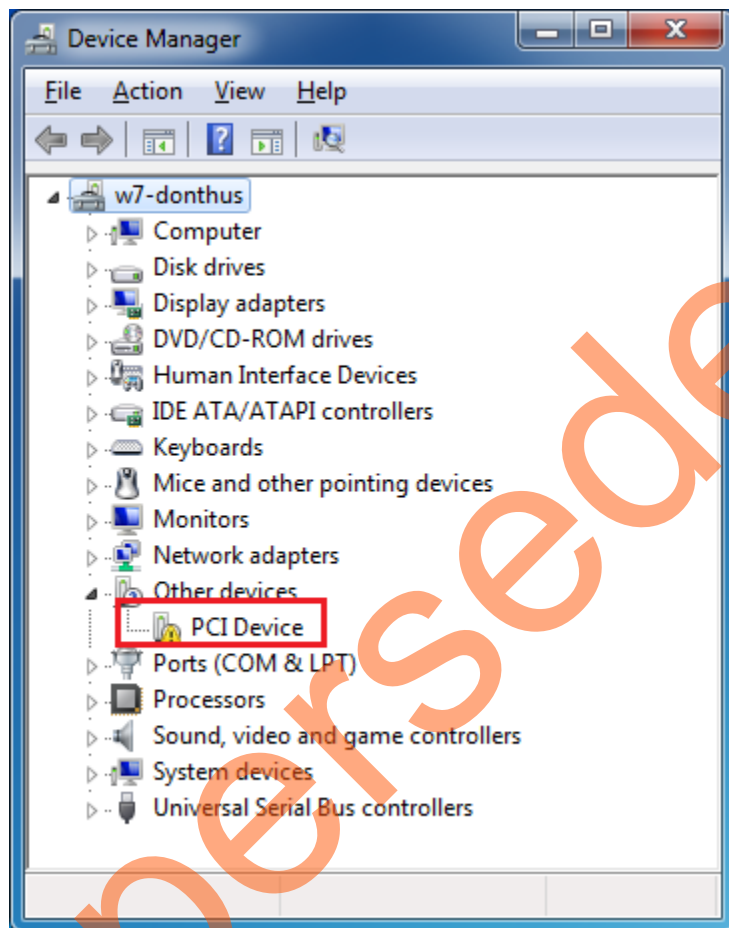

Figure 55 • Device Manager - PCIe Device Detection
1. Power on the Host PC and check the Host PC Device Manager for PCIe Device. It will be similar to Figure 55. If the device is not detected, power cycle the SmartFusion2 Development Kit and click “scan for hardware changes” in Device Manager.